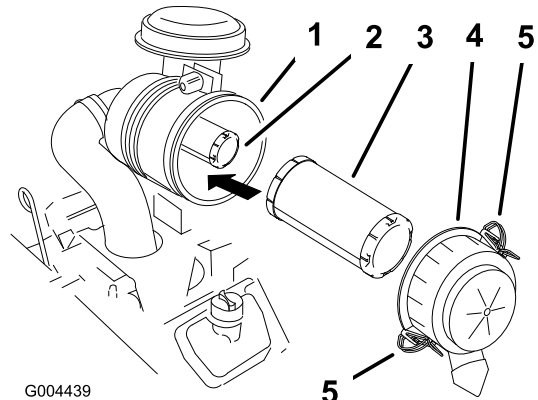

Figure 27
- Clean around the air cleaner to prevent dirt from getting into the engine and causing damage. Release the latches on the air cleaner and pull the air cleaner cover off of the air cleaner body (Figure 27).
- Clean the inside of the air cleaner cover with compressed air (Figure 27).
- Gently slide the primary filter out of the air cleaner body (Figure 27). Avoid knocking the filter into the side of the body.
- If installing new filters, check each filter for shipping damage. Do not use a damaged filter. (Figure 27).
- If the safety filter is being replaced, carefully slide it into the filter body (Figure 27).
- Carefully slide the primary filter over the safety filter (Figure 27). Ensure that it is fully seated by pushing on the outer rim of the filter while installing it.
- Install the air cleaner cover with the side indicated as **UP** facing up and secure the latches (Figure 27).